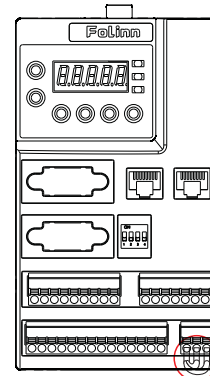

Figure 1
- A. The internal circuit diagram of the safety control loop is shown in Figure 1 below.
- (1) Remove the +EV, STI1, and STI2 short wires.